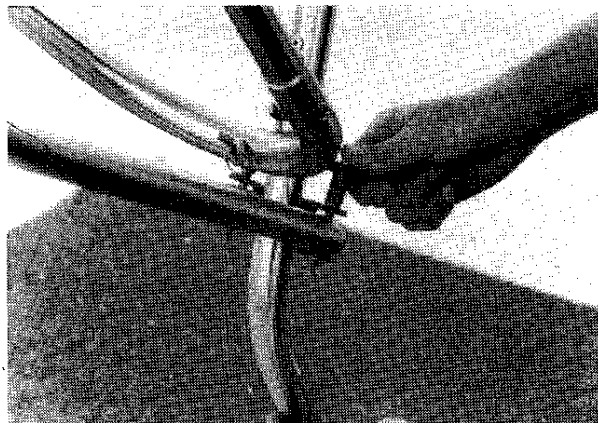

Figure 2.38
44. Attach opposite ends of right and left tail brace tubes to 1" channels on tail skid using (2) 1/4" dia. T-handle pins and safety rings. **Figure 2.38**